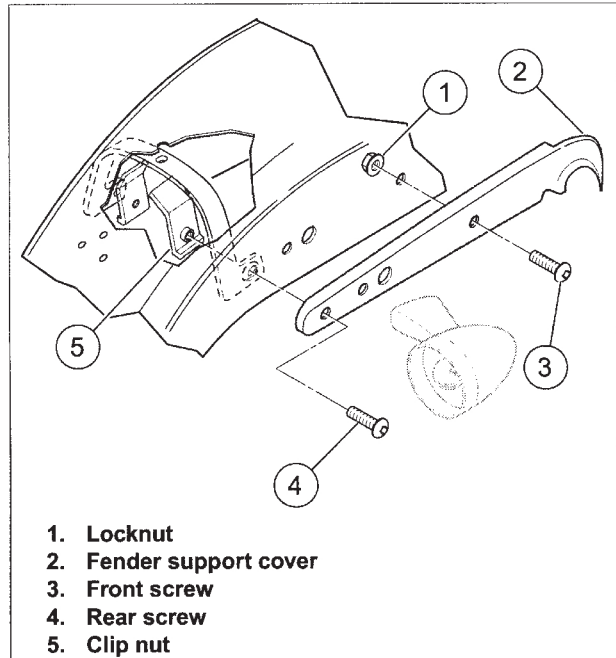

Figure 1. Rear Fender Support (Right Side Shown)
4. See Figure 1. Remove and discard the front screw (3) and locknut (1) from the rear fender support cover (2).
5. Remove and discard the rear screw (4) and clip nut (5) from the rear fender support cover.